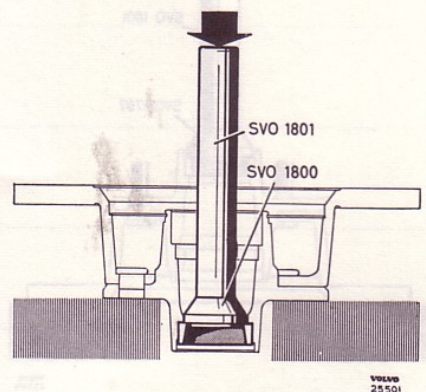

Fig. 28. Removing the outer bearing ring
4. Remove the bearing rings. For the inner bearing ring, use drift SVO 1799 (Fig. 27), and for the outer bearing ring, drift SVO 1800 (Fig. 28) together with standard handle SVO 1801.